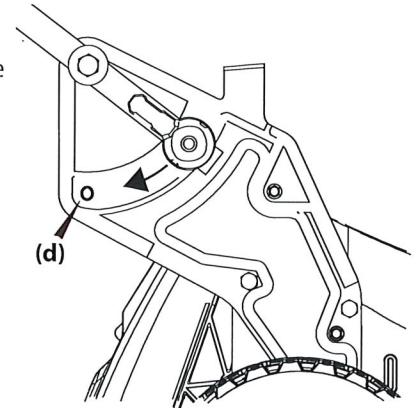

Figure 9
**NOTE:** A fourth handle height position (d) is used for storing the mower with the handle in the upright position. See Figure 9.